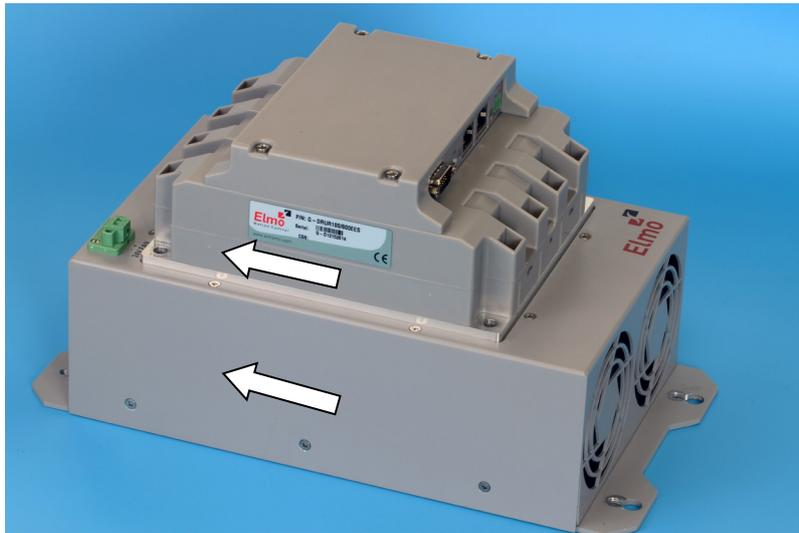

Figure 4: Mounting the Drum on the Thermal Foil and Heat Sink
3. Mount the Drum on the area of the Heat Foil, making sure not to scratch or move the foil. Make sure that the Drum is aligned as shown in Figure 4, according to the air flow.